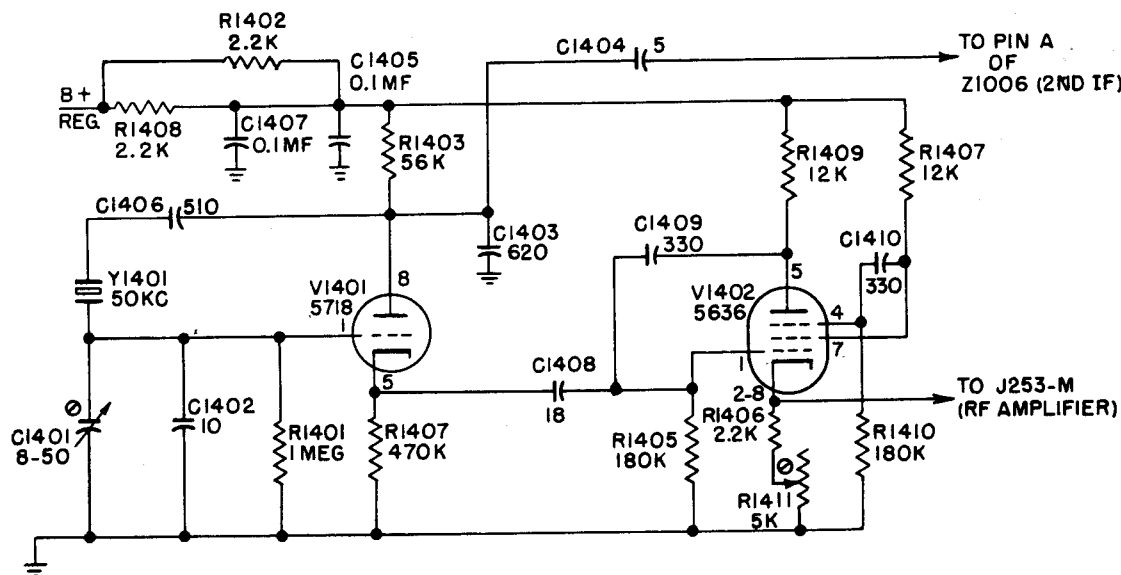

Figure 2-6. Crystal Calibrator, Simplified Schematic, AN/SRR-11
(1) 10-KC CRYSTAL CALIBRATOR (AN/SRR-11).—Refer to figure 2-6. The 10-kilocycle crystal calibrator consists of 10-kilocycle multivibrator V1402, which is synchronized to a 50-kilocycle Pierce oscillator, V1401. The Pierce oscillator circuit includes a triode V1401. The plate, pin 8, and grid, pin 1, are coupled to each other through capacitor C1406 and crystal Y1401, which is the frequency-determining element. Capacitors C1401, C1402, and C1403 comprise the voltage divider network to maintain the proper voltage and phase relationship among the grid, cathode, and plate for oscillations to occur. The grid circuit includes a screwdriver-adjusted capacitor C1401 which permits the frequency to be adjusted over a